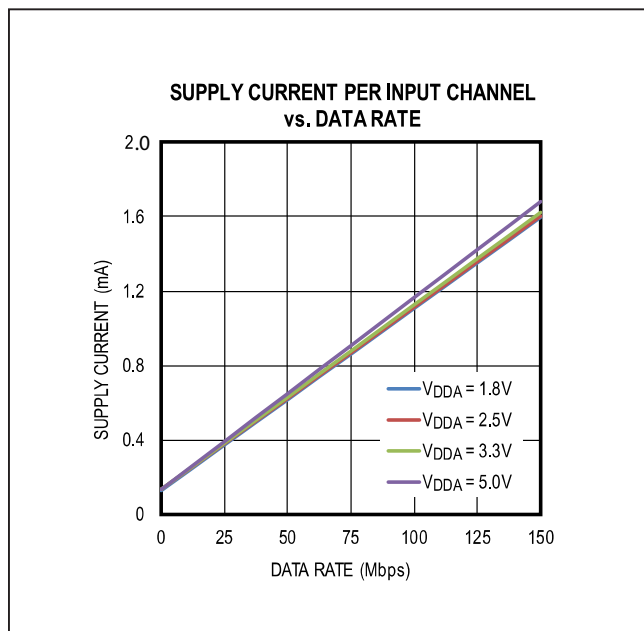
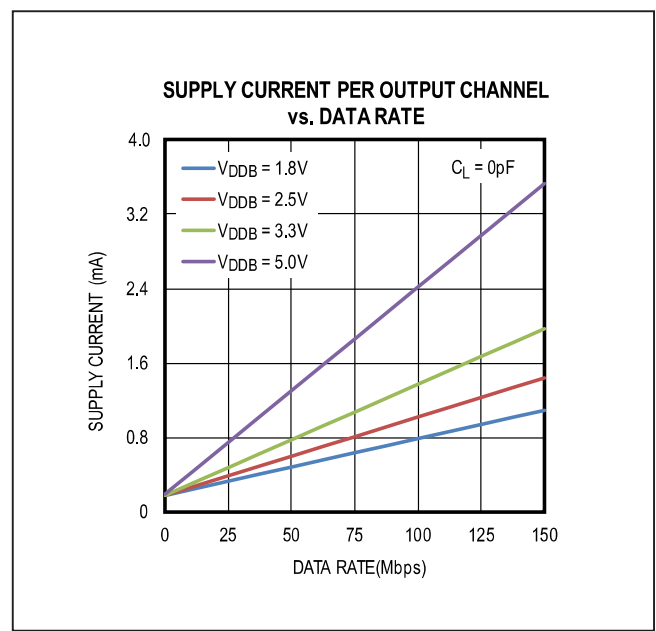

Figure 6. Supply Current Per Input Channel (Estimated)
Figure 7. Supply Current Per Output Channel (Estimated)
The required current for a given supply (VDDA or VDDB) can be estimated by summing the current required for each channel. The supply current for a channel depends on whether the channel is an input or an output, the channel’s data rate, and the capacitive or resistive load if it is an output. The typical current for an input or output at any data rate can be estimated from the graphs in Figure 6 and Figure 7. Please note the data in Figure 6 and Figure 7 are extrapolated from the supply current measurements in a typical operating condition.
The total current for a single channel is the sum of the “no load” current (shown in Figure 6 and Figure 7) which is a function of Voltage and Data Rate, and the “load current,” which depends on the type of load. Current into a capacitive load is a function of the load capacitance, the switching frequency, and the supply voltage.
- Channel 1 is an input channel operating at 2.5V and 20Mbps, consuming 0.33mA, estimated from Figure 6.
- Channel 2 and 3 are input channels operating at 2.5V with DC signal, consuming 0.13mA, estimated from Figure 6.
- Channel 4 is an output channel operating at 2.5V and 100Mbps, consuming 1.02mA, estimated from Figure 7.
- Channel 1 is an output channel operating at 3.3V and 20Mbps, consuming 0.42mA, estimated from Figure 7.
- Channel 2 and 3 are output channels operating at 3.3V with DC signal, consuming 0.18mA, estimated from Figure 7.
- Channel 4 is an input channel operating at 3.3V and 100Mbps, consuming 1.13mA, estimated from Figure 6.